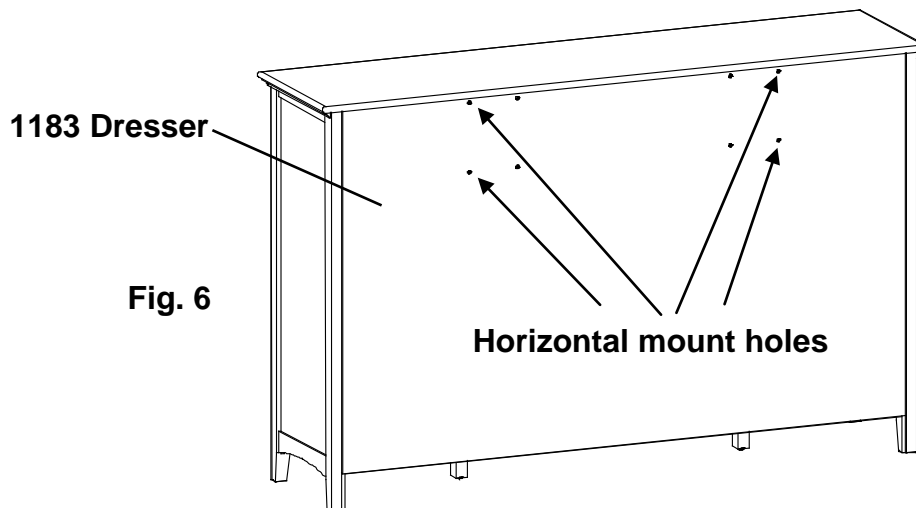

Fig. 6
6. To attach the Mirror horizontally to the Dresser, use the predrilled holes in the back as noted in Figure 6.